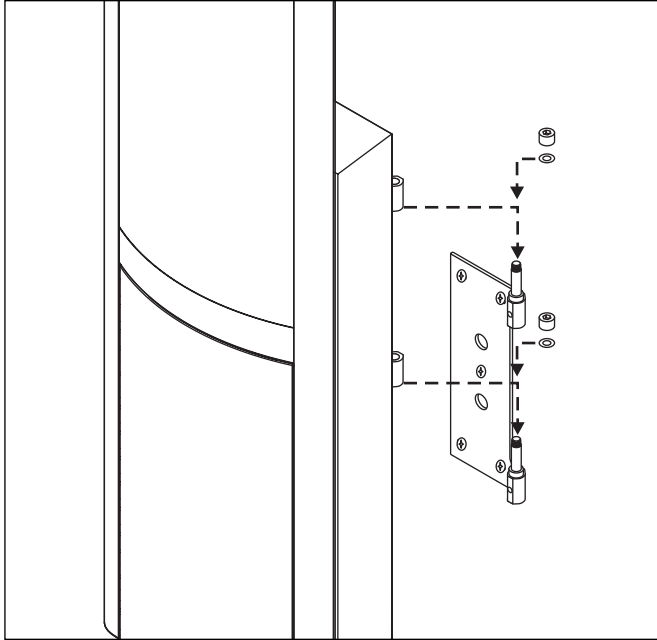

Figure 8. Steps 9–10
- 9 Place the Script i onto the wall bracket aligning the cylindrical parts of the cabinet bracket hinges with the upward pointing pins on the wall bracket. Carefully lower the Script i into place (see figure 8).
- 10 Using a 6mm Allen tool, attach a cap nut and washer on top of each pin, but do not fully tighten the cap nuts (see figure 8).